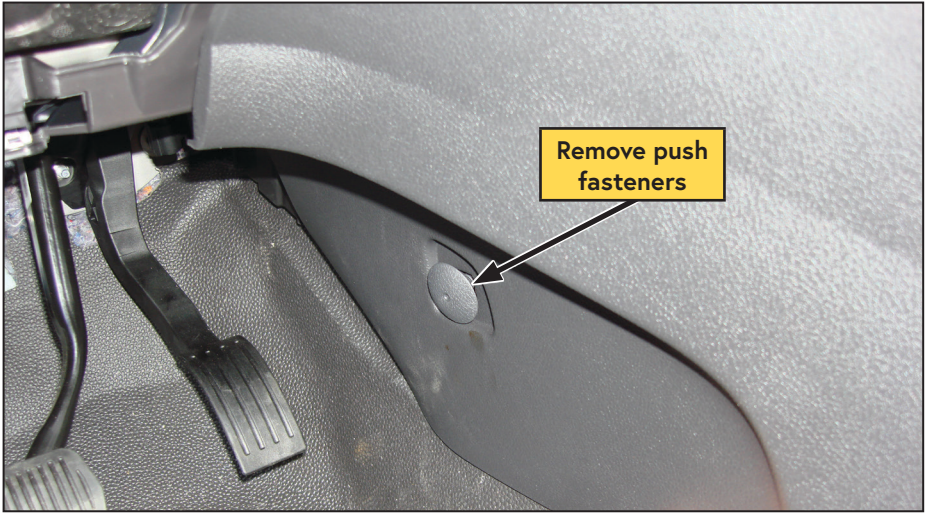

Figure 54 — Remove lower dashboard
- Remove the push fasteners from both sides of the lower dashboard panel (Figure 54).